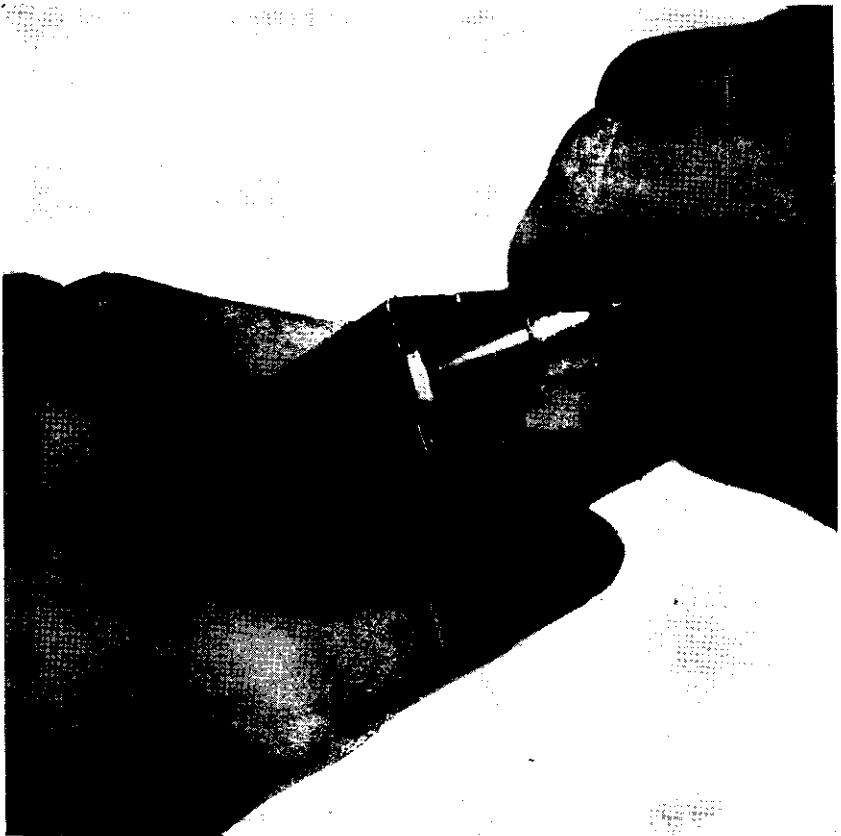

Figure 29. Removing the base of the magazine.
a. Use the point of a cartridge to raise the front of the magazine base (fig. 29) until its indentation is clear of the magazine. Grasp the magazine with either hand, with one finger of that hand covering the base. Remove the base with the other hand while the finger of the grasping hand controls the expanding spring.